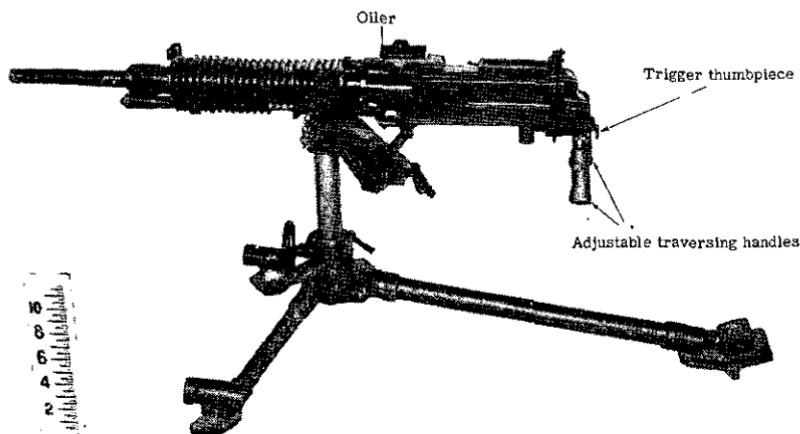

Figure 70.—Model 92 (1932) 7.7-mm heavy machine gun (left side).
- (5) The oiler (fig. 70), which is situated above and to the left of the receiver directly above the feedway.
- (6) The marking ^九_式 which is on top of the receiver.